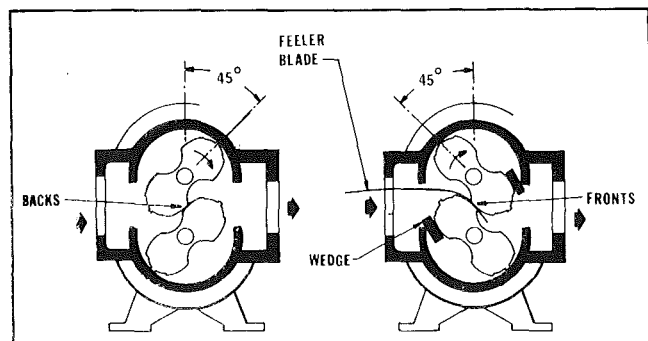
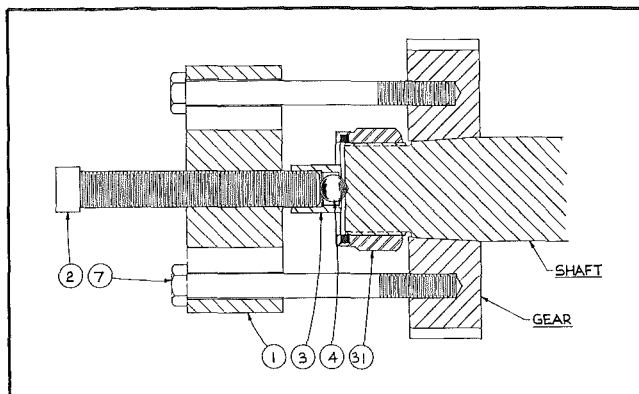

Figure 4 — Impeller Timing Viewed From Gear End
Figure 5 — Gear Removal
3. Removing gears: Be sure that each gear is marked for return to the same shaft in the same angular position and that the gears have match marks for the teeth. For this operation, the impellers should be wedged as shown in Figure 4. Remove the locknuts (31), slinger (46) and gear mounting washers (30). The timing gears (4) have two  $\frac{1}{2}$ "-13 holes for pulling purposes. Use a puller of the type shown in Figure 5. The two  $\frac{1}{2}$ "-13 screws should be turned into the gear full depth, but make sure the puller is square with the shaft. If a shouldered plug as shown in Figure 5 is not used, the gear may spring away from the shaft when it releases. Stand to one side and provide rags or cushioning material under the gear.
11. Installing drive gear (4) - Be sure shafts and gear bores are clean and free of scratches. Clean the tapered fits in the shafts, and coat them with a light oil or WD-40 then wipe off with a clean rag or paper towel. Oil capscrew threads lightly. Place hardwood wedges as shown in Figure 4. Install gear (4), washer (30) and capscrew (31) so match mark at tooth is at the line of engagement. Tighten the drive gear to the torque given in Table 4. Blower assembly *must* be fastened down for torquing operation.
12. Installing driven gear (4) - Insert a long, metal feeler gauge between the impeller's lobes at the fronts or backs as shown in Figure 4. Feeler gauge thickness to be a middle value from Table 5 for fronts and backs. Align the gear so the tooth match marks agree with the drive gear, then install washer (30), slinger (46) and locknuts (31). Tighten lightly with a small wrench, then check front and back clearances against Table 5 for each 45° position. Both fronts and backs should be about the same and within the specified range in Table 5. Adjust gear position, if necessary, then insert the corrected feeler gauge and wedges and use a torque wrench to tighten the gear cap screw to the torque specified in Table 4. Remove wedges and rotate the drive shaft by hand to make sure there are no gear tight spots or impeller contacts.
13. Install gearbox (3) with gasket (7) and tighten cap screws (23) evenly. **Note!** Replace short cap screws used during assembly under point 5.
14. Apply Loctite to the screw threads, the washer faces on both sides of the slinger then install drive end oil slinger (40), flatwasher (36) and tighten cap screw (60) to torque value in Table 4A.
15. Install drive end cover (5) and gasket (7) with drive lock pins (17) in place. Tighten cap screws (23) evenly. **Note!** Replace short cap screws used during assembly under point 5. Check seal bore for concentricity with shaft using an indicator; re-position drive lock pins, if necessary. Install seal (33) with lip facing inward using care to avoid tearing or scratching seal on shaft keyway. Use a pressing tool with clean, square ends to insure correct positioning of the seal against its stop.
16. Install breather air filter (55), and breather plug (21) in each headplate.
17. Replace oil drain plugs (22) and refill drive end and gear sumps with proper grade of oil as discussed under LUBRICATION.